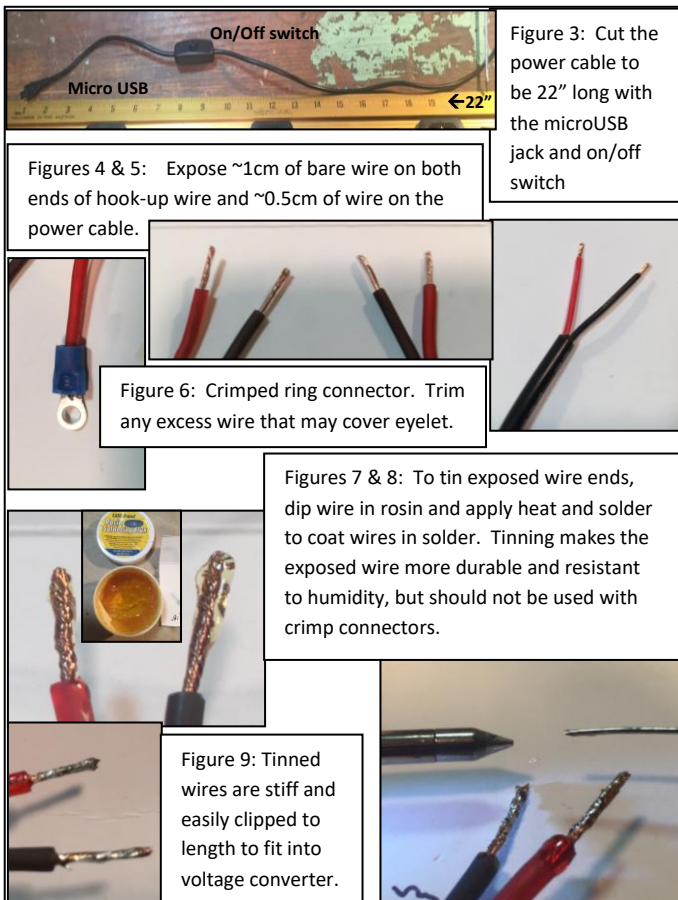
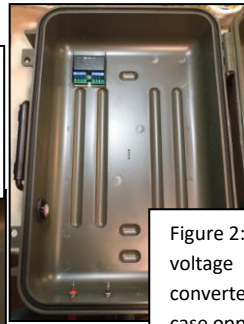

Figure 1: Affix Velcro to back of voltage converter and interior of case.
Figure 2: Place voltage converter in case opposite power posts.
- 1) Peel off backing of sticky Velcro and affix to the bottom of DC/DC voltage converter (Figure 1). Affix match piece of Velcro to front-left corner of the Sensorgnome case, opposite two drilled 5/8" holes (Figure 2).